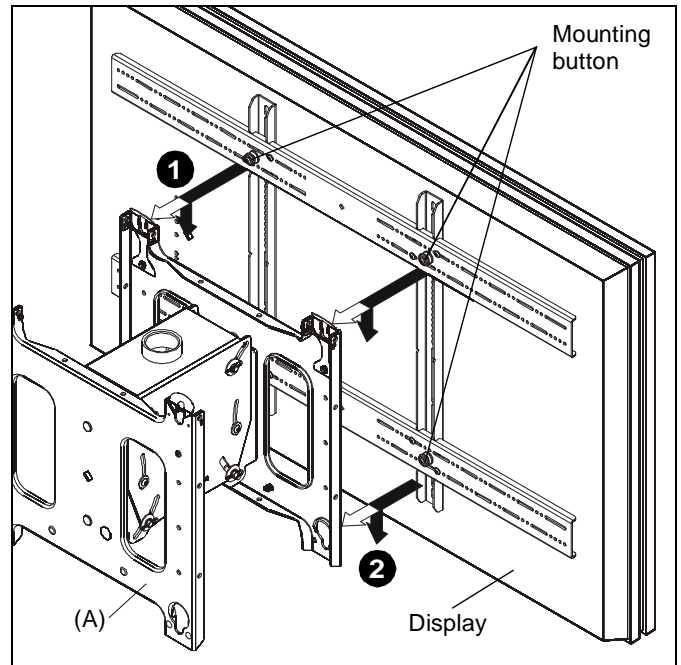
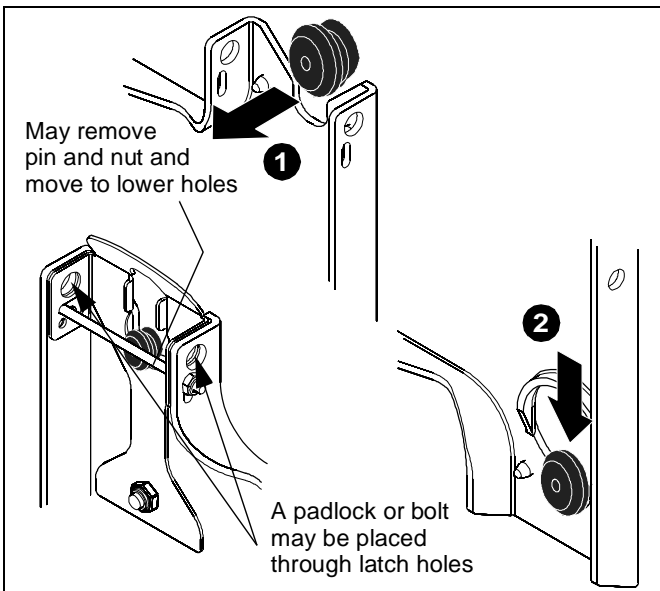

Figure 2
Figure 3
1. While supporting each side of display, align four mounting buttons on interface bracket with four mounting holes on PDC. (See Figure 2) and (See Figure 3)
- Lower each display into place listening for audible "click" to ensure recessed area of mounting buttons are properly seated in lower area of mounting holes. (See Figure 2) and (See Figure 3)